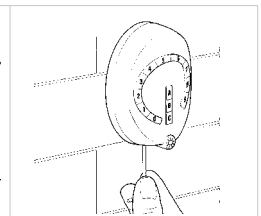

Fig. 5
- Fix the selector to the support with the retaining screw Fig.5